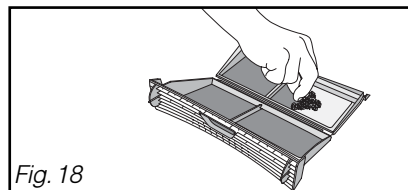

Fig. 18
– Clean it by removing the thin coating of lint covering it (Fig. 18).